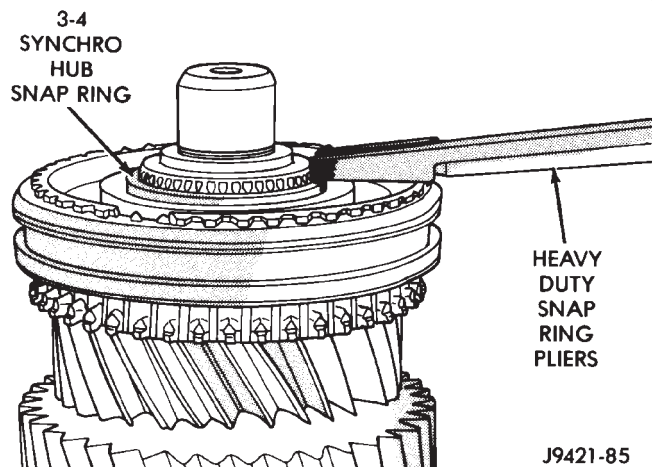

Fig. 78 Installing 3-4 Synchro Hub Snap Ring
(33) Install 3-4 synchro hub snap ring (Fig. 78) as follows: